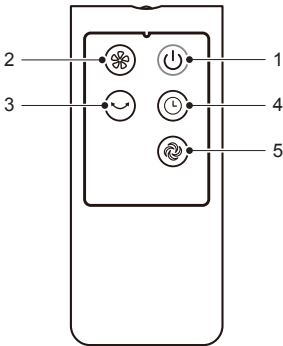

Fig.4
I.Remote Controller (Fig.4)/Control remoto (Fig. 4)